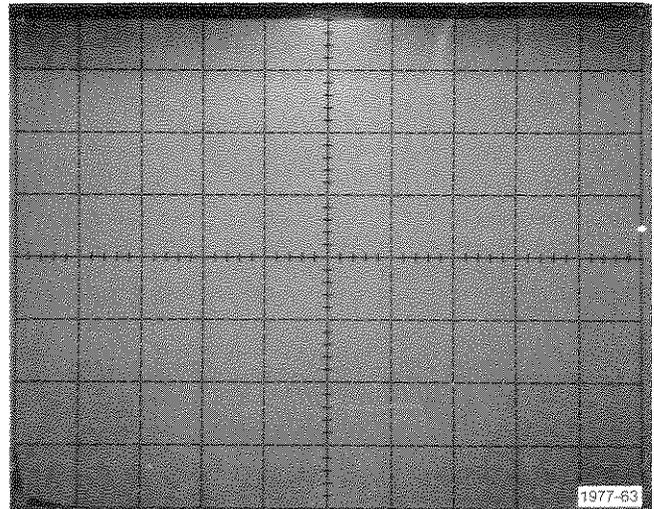

Fig. F-11. Display of output leakage current check.
- h. Set the VERT UNITS/DIV switch to 50 pA and check the output leakage current (the amount of vertical shift from the display zero reference established in part e). The specified limit for the MC3302P is 1 μ A maximum—see Fig. F-11.